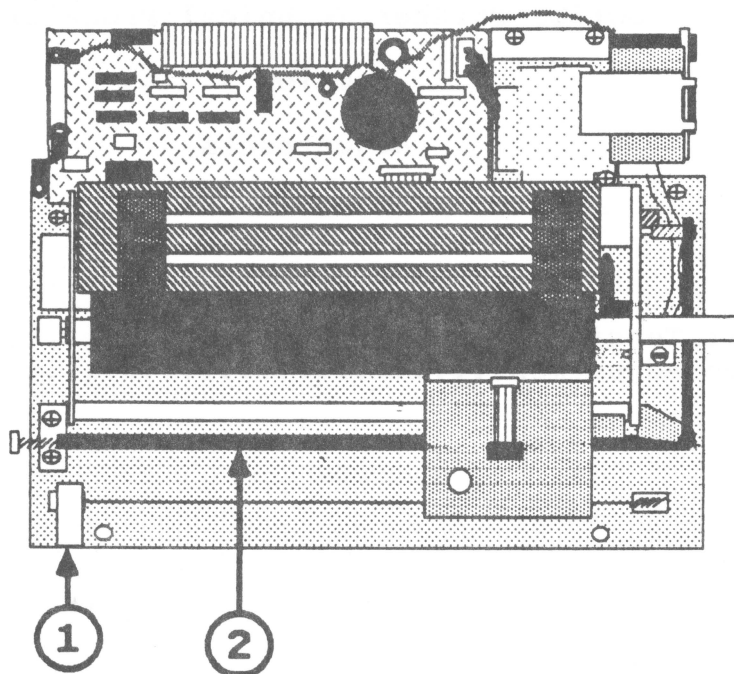

Figure 1
Faulty drive belt tension can also cause **home position** errors (see Section 4, **Troubleshooting**, p.4.6-4.8 for error indications). In the case of a home position error, make sure that the home position sensor switch (Figure 1, #1) is firmly attached to the chassis before you try the belt tension adjustment. If there is any play in the sensor switch mounting, tighten the screw. This may solve the problem without belt tension adjustment.
4. Position the spring gauge on the top portion of the drive belt, halfway between the carriage assembly and the left-hand belt pulley. (See Figure 1, #2.)